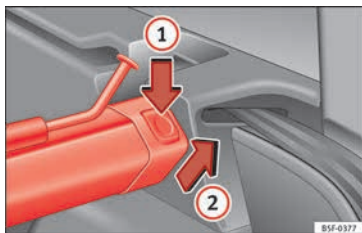

Fig. 166 In the luggage compartment: removing the net partition.
- Press the left or right release catch » **Fig. 166** in the direction of the arrow (1).
- Remove the casing from the support in the direction of the arrow » **Fig. 166** (2).
- Press the casing into the left and right supports in the opposite direction to the arrow » **Fig. 166** (2) until it engages.